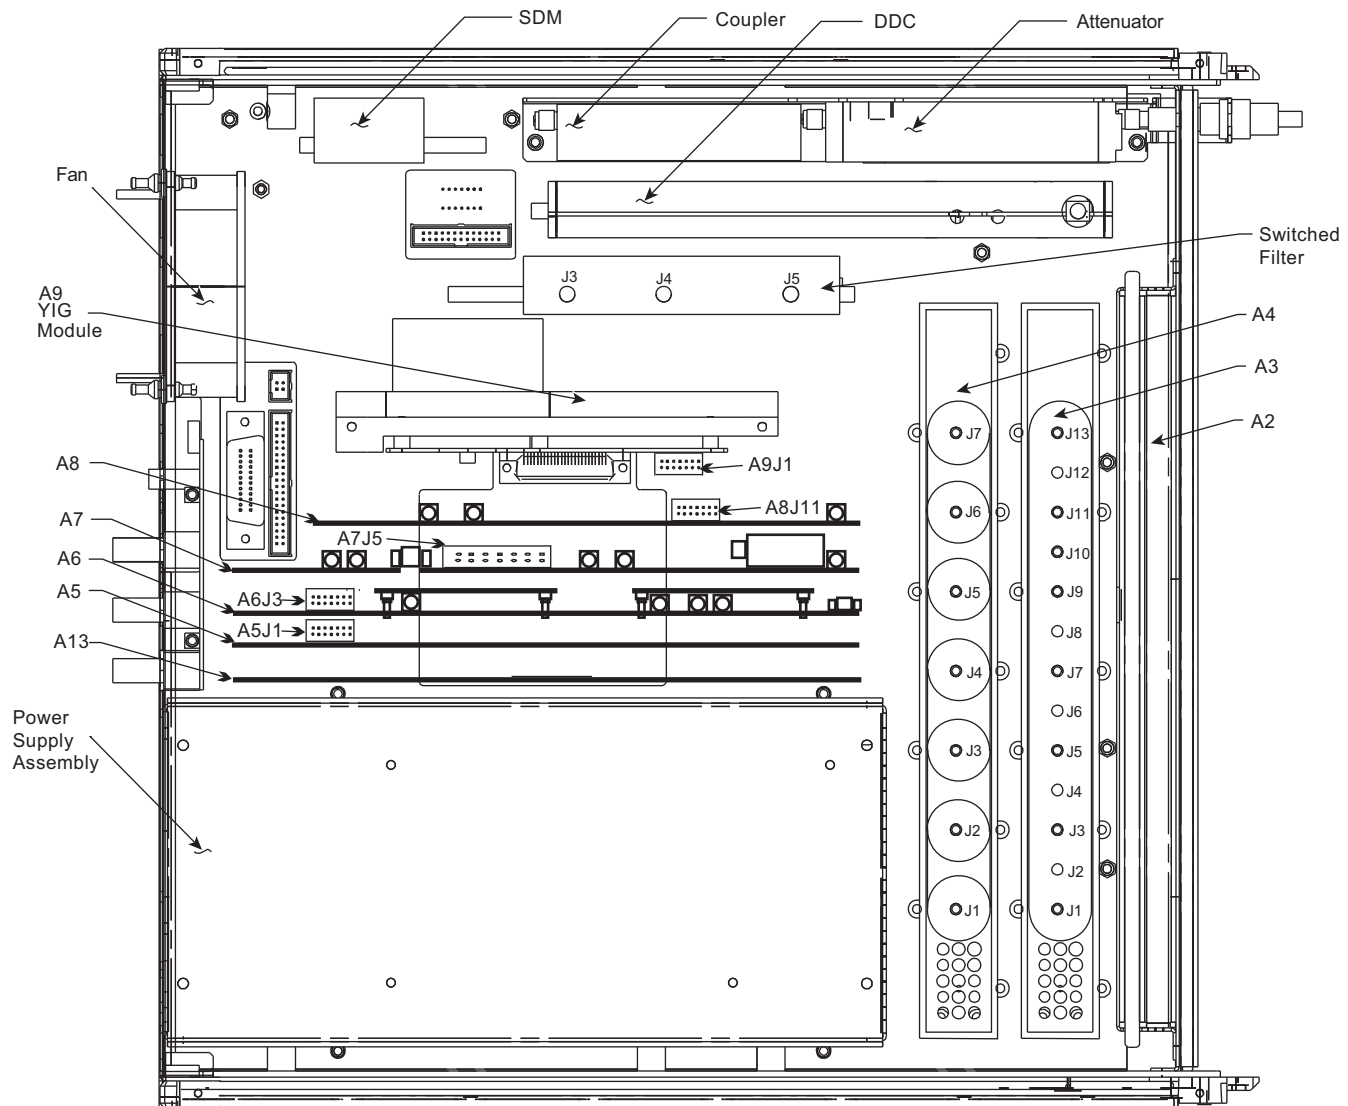

Figure 7-10. Locations of A5, A6, A7, A9, and A13 PCB Assemblies
1. Grasp the A5 PCB by the edges and pull up to remove the board from the chassis connector. See Figure 7-10 for locations of the A5, A6, A7, A8, A9, and A3 PCBs.
1. Grasp the A13 PCB by the edges and pull up to remove the board from the chassis connector. See Figure 7-10 on page 7-16 for locations of the A5, A6, A7, A8, A9, and A13 PCBs.